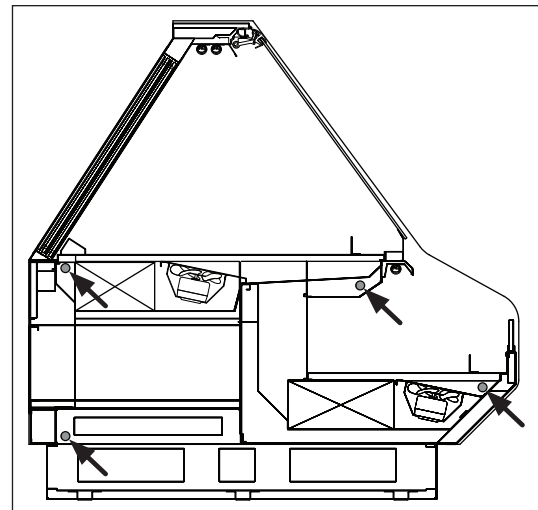

Fig. 3 Bolt locations (SD-R-R)
4. Push the cases tightly together, then lightly bolt them together through the holes provided (Fig. 3 & 4). Tighten all the joining bolts until all margins are equal. Be careful not to over tighten.